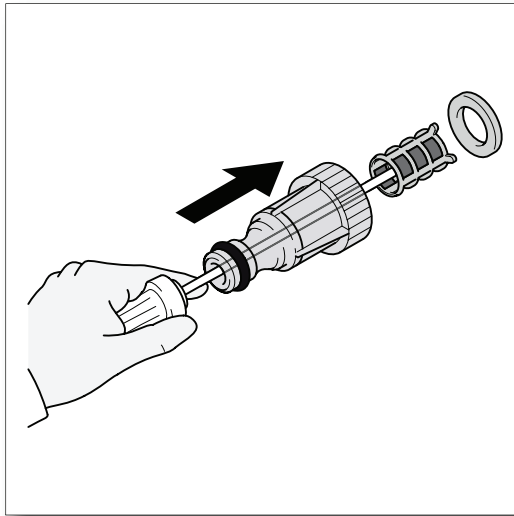

Fig. 21
- The screen inside the clear adapter should be cleaned periodically. Insert a pen or pencil in small hole at the end of the adapter. The screen filter will slide out (Fig. 21). Rinse it with clean water, and then place it back in the adapter.